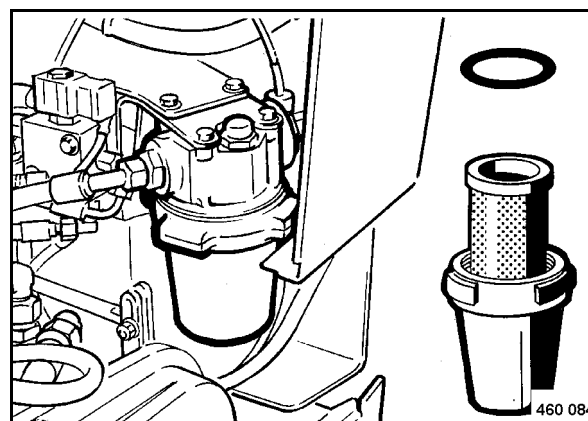

Fig. 125
- Unscrew the filter bowl (Fig. 125) from the filter housing.